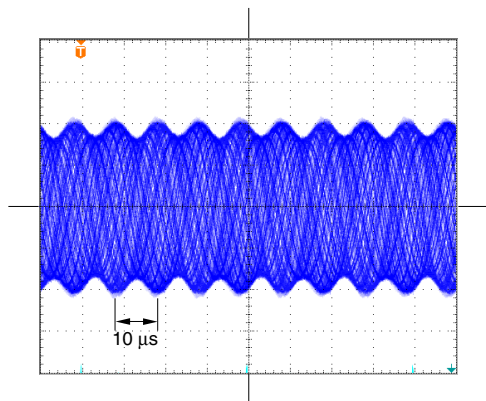

Fig. 4-9
- 5** Set the G-BAL trimmer to about the center position. Moving the scale displays the waveform shown in Fig. 4-9. Next, adjust the PHASE trimmer so that the envelope ripple is minimized. Also, make fine adjustments with the G-BAL trimmer so that the envelope ripple is minimized.